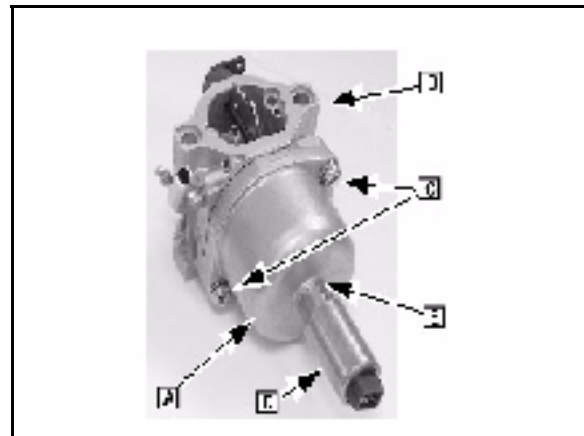

Fig. 150
20. Insert the spring ([Y] Fig. 150) to the bottom of the float assembly.
21. Place the fuel bowl (A) on the carburetor base ([B] Fig. 150).
22. Fasten with screws ([C] Fig. 150).
23. Install solenoid (D) and washer ([E] Fig. 150).
24. Torque solenoid to values listed (Fig. 150).